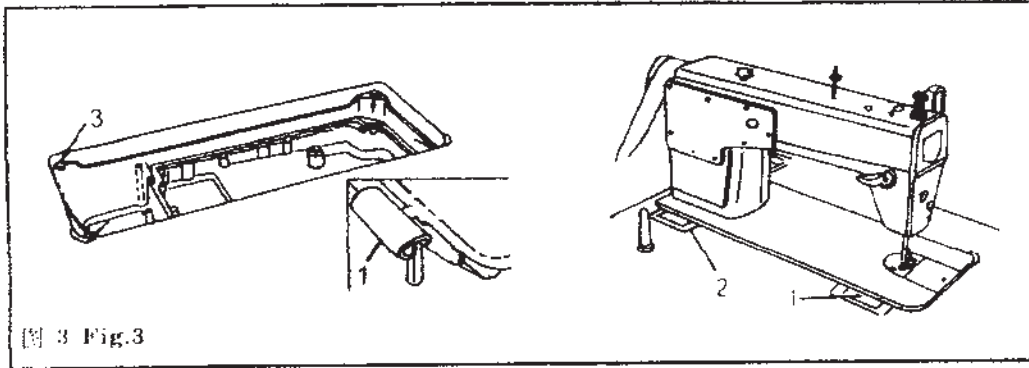

图 3 Fig.3
将机头连接钩 1 插入机壳底板孔内，与台板上的机头连接钩座 2 相嵌合，再将机头放到四只角的机头座垫 3 上。(图 3)
(3) Fitting machine head:
Put the machine head connecting hooks (1) into the bed holes to engage respectively two hinges (2) stated in the table, then place the machine on the four cushions (3). (Fig.3)